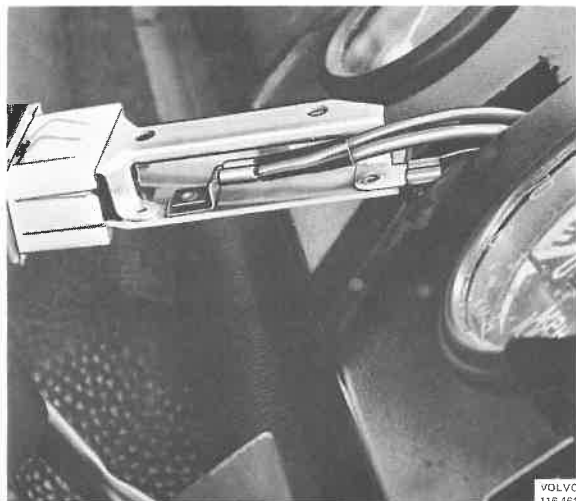

Fig. 36-27. Rheostat
2. Press out the rheostat from the reverse side of the dashboard, see Fig. 36-27. Mark up for correct re-installation and disconnect the cables from the rheostat.